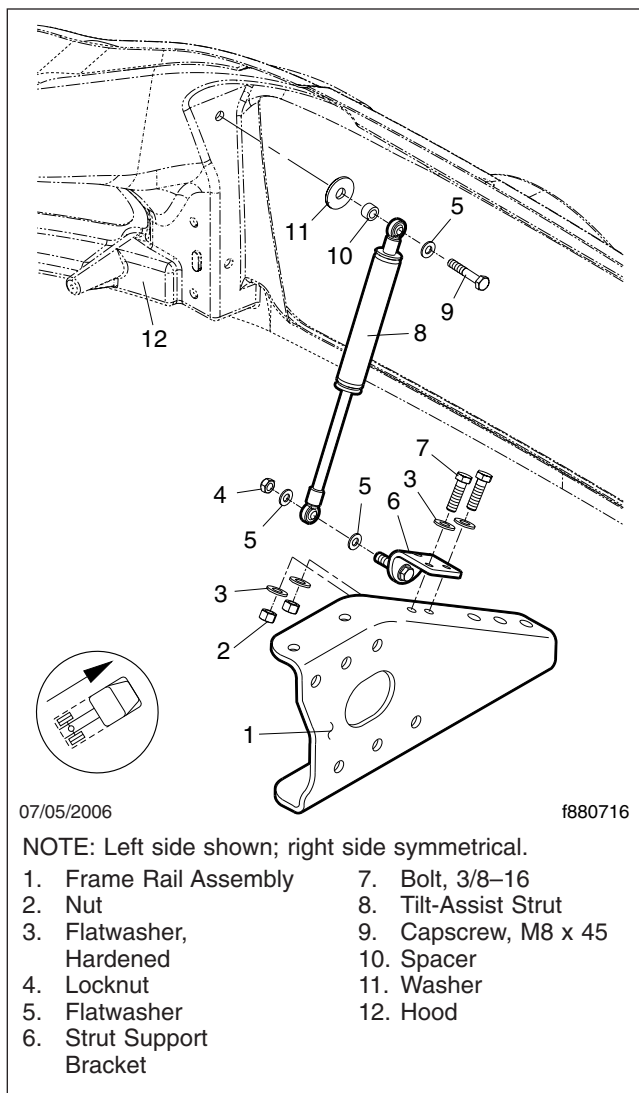
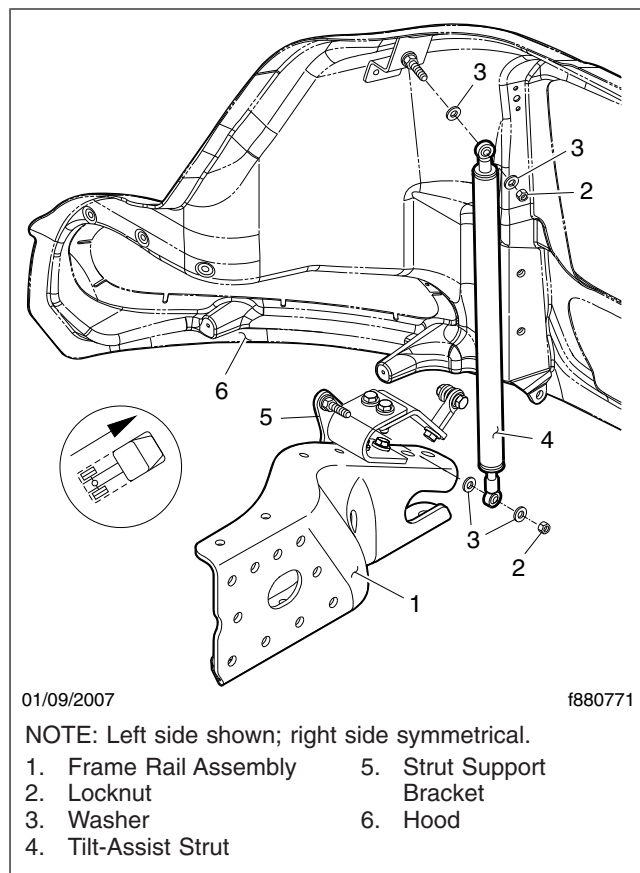

Fig. 7, Spring Strut Installation (vehicles with a 106-inch BBC cab)
Fig. 8, Spring Strut Installation (vehicles with a 112-inch BBC cab)
4. Remove the tilt-assist spring struts by removing the fasteners that secure the struts to the frame assembly and the hood. For vehicles with a 106-inch BBC cab, see Fig. 7. For vehicles with a 112-inch BBC cab, see Fig. 8.
7. Install the tilt-assist spring struts on the frame assembly and the hood. Tighten the fasteners 15 to 19 lbf·ft (20 to 26 N·m). For vehicles with a 106-inch BBC cab, see Fig. 7. For vehicles with a 112-inch BBC cab, see Fig. 8.